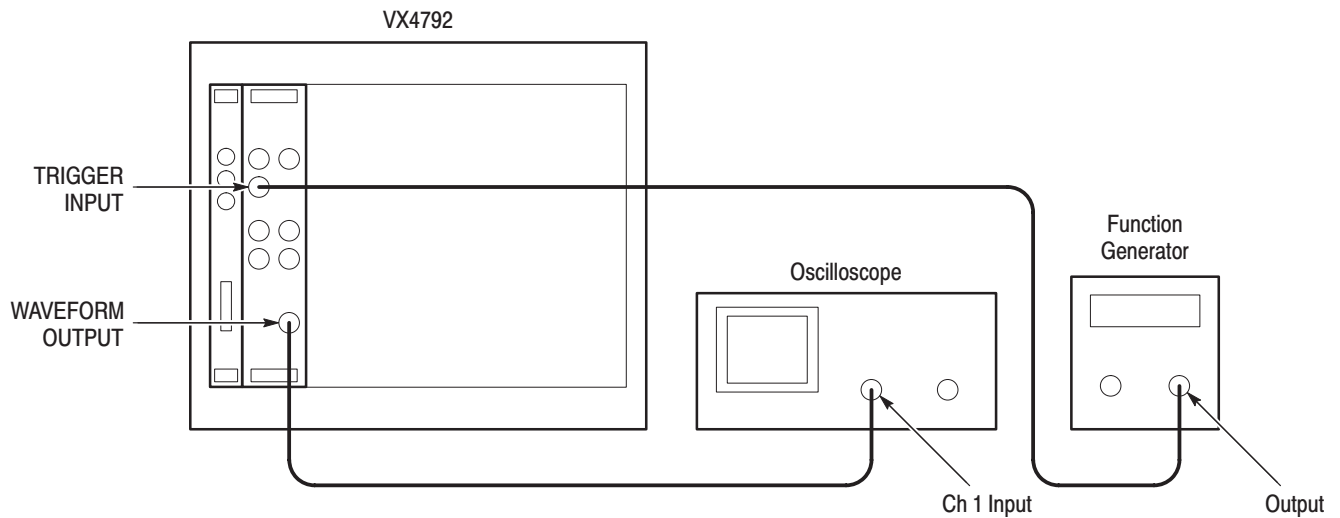

Figure F-4: Triggered Mode Initial Test Setup
1. *Install the test setup and set test equipment controls (see Figure F-4):*